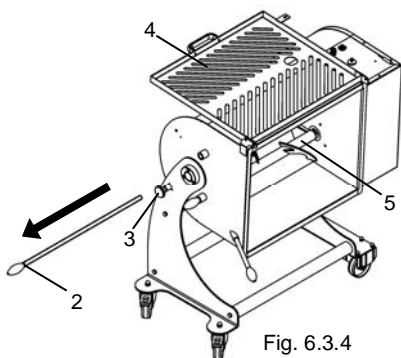
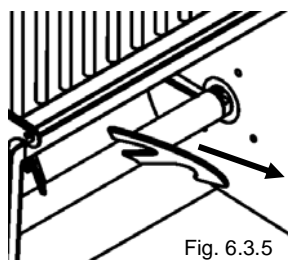

Fig. 6.3.4
Fig. 6.3.5
- With the bowl in a horizontal position grip the handle on the bowl tilting bar "1" Fig. 6.3.4
- Unhook and remove the pins which lock the mixing blades "2" in position Fig. 6.3.4 and "2" Fig. 6.3.5
- Unscrew the bowl locking knob "3" anti-clockwise Fig. 6.3.5
- Once having released the mixing bowl rotate (Fig. 6.3.2) by pulling the tilting bar "1" Fig. 6.3.4.